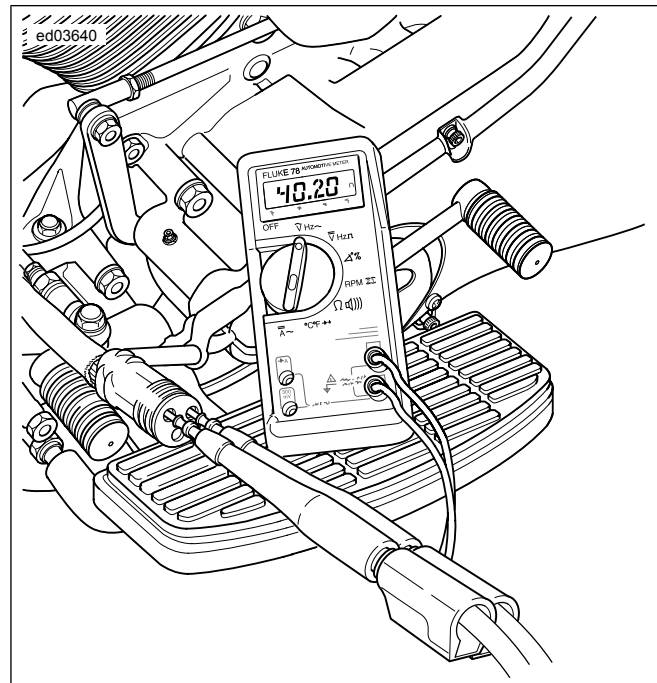

Figure 3-18. Check Stator AC Voltage Output (Typical)
1. See Figure 3-18. Using TEST CONNECTOR KIT \(PART NUMBER: HD-41404\), test AC output.